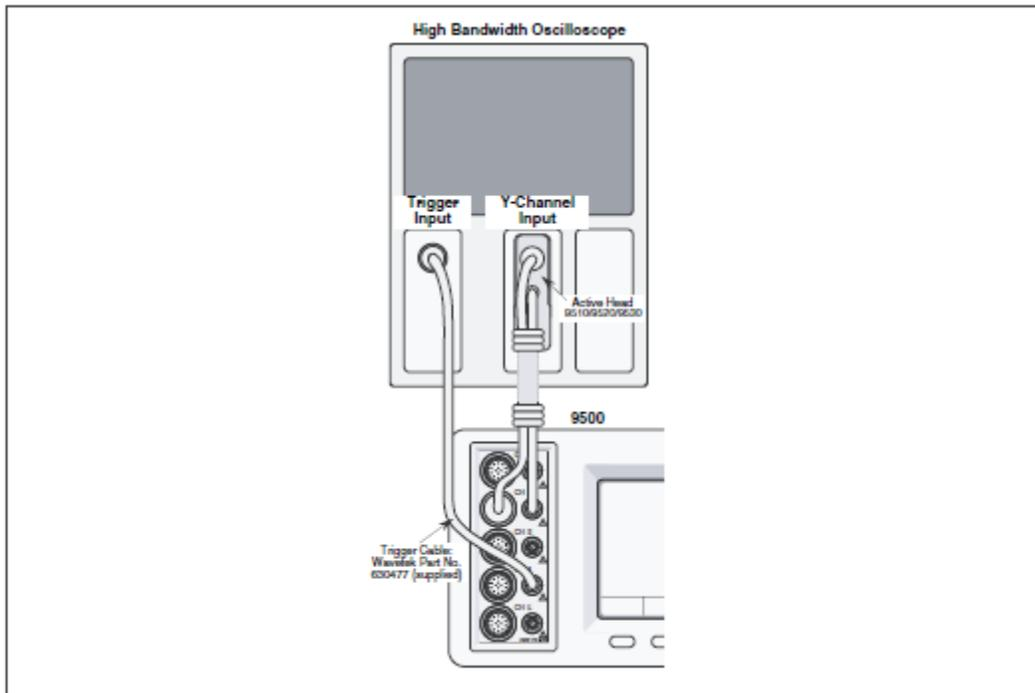

Figure 20. Edge Function Calibration — Interconnections
1. Connections: Ensure that the 9500B is connected to the Oscilloscope as shown in Figure 20, and that both instruments are powered on and warmed up.
1. Ensure that the 9500B is connected to the oscilloscope as shown in Figure 20. and that both instruments are powered on and warmed up.
1. Ensure that the 9500B is connected to the oscilloscope as shown in Figure 20, and that both instruments are powered on and warmed up.